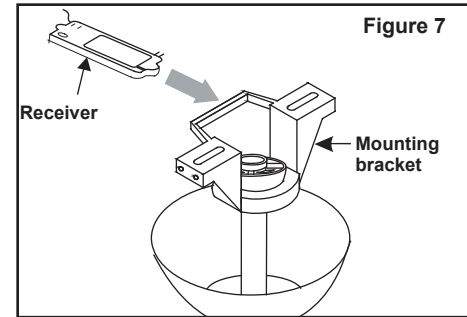

Figure 7
Step 1. (Fig. 7) Insert the receiver into the mounting bracket with the flat side of the receiver facing the ceiling.